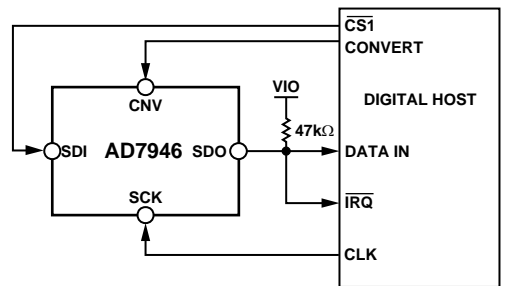
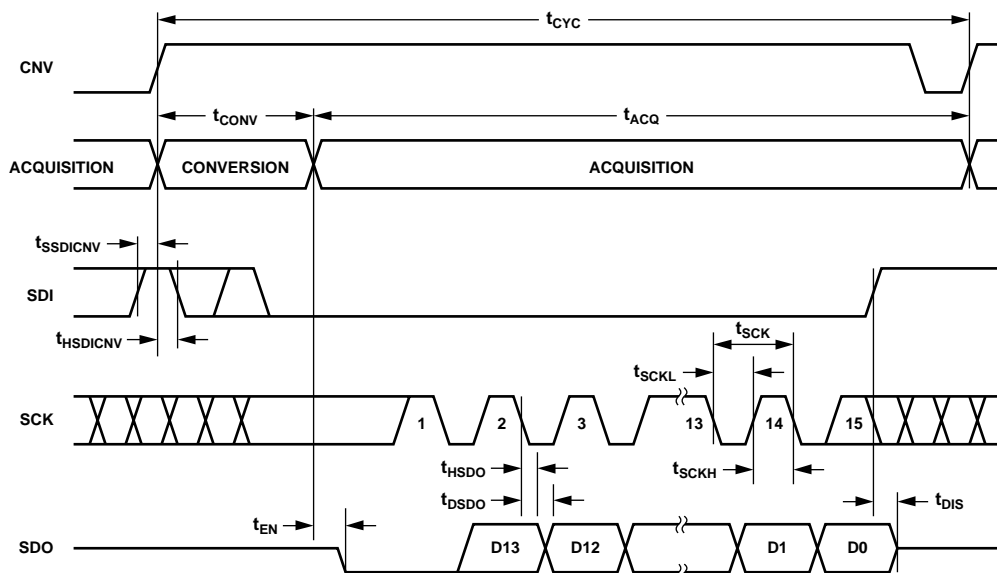

Figure 39.  $\overline{\text{CS}}$  Mode 4-Wire with BUSY Indicator Connection Diagram
Figure 40.  $\overline{\text{CS}}$  Mode 4-Wire with BUSY Indicator Serial Interface Timing
- In  $\overline{CS}$  mode, if CNV or SDI is low when the ADC conversion ends (Figure 36 and Figure 40).
The connection diagram is shown in Figure 39, and the corresponding timing is given in Figure 40.